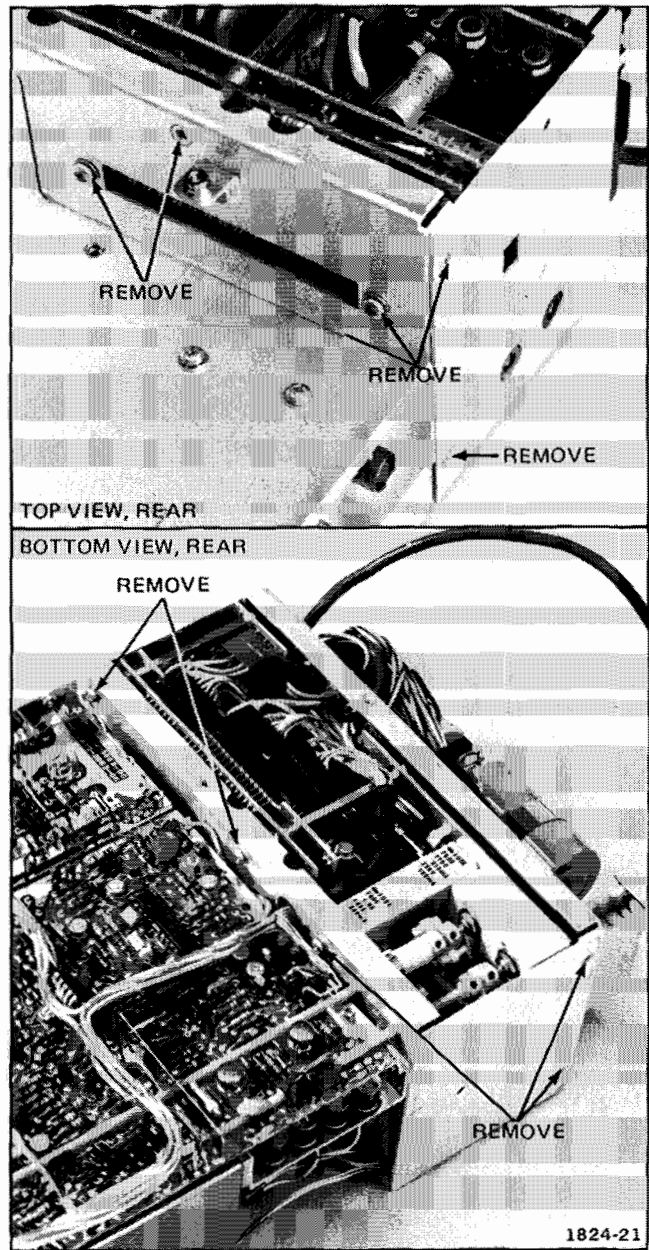

Fig. 4-4. Locations of screws holding power supply section to main chassis.
f. Remove 8 screws (shown in Fig. 4-4).